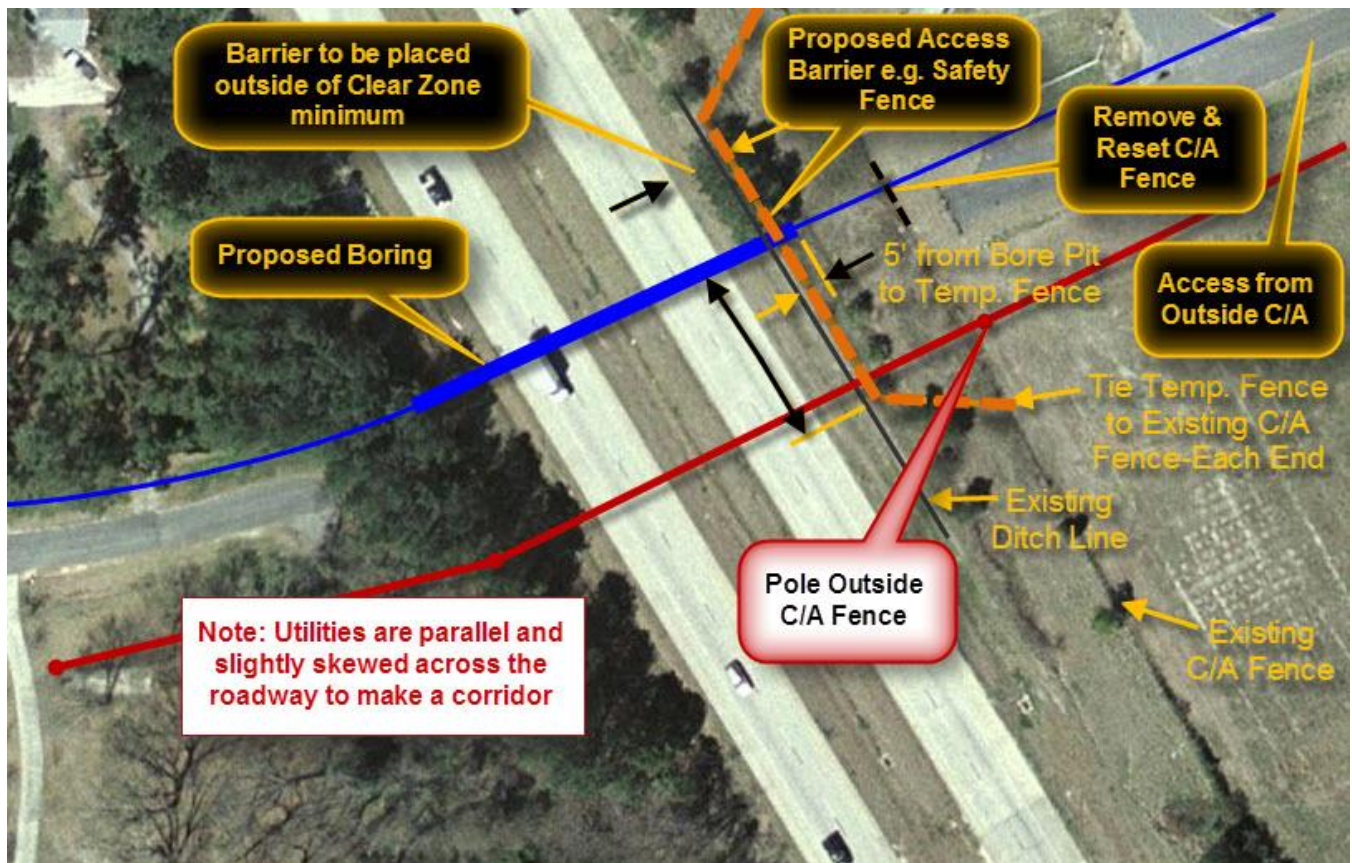

Figure 4
- iii. Illustration is shown above (Figure 4)